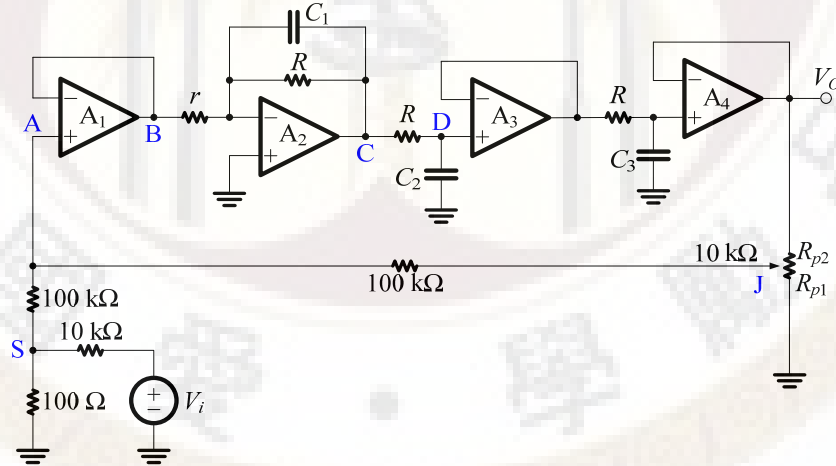

Fig. 7 Multi-pole feedback network OP-Amp circuit
(1) In Fig. 7, use  $R = 10 \text{ k}\Omega$ ,  $r = 100 \Omega$ ,  $C_1 = C_2 = C_3 = 0.1 \mu\text{F}$  (104),  $VR = 10 \text{ k}\Omega$  for  $R_{p1}(R_{p2})$ .
(2) Adjust  $VR$  to have  $R_{p1} = 0 \Omega$ ,  $R_{p2} = 10 \text{ k}\Omega$ .
(3) Apply the input signal  $V_i$  to the breadboard by using function generator